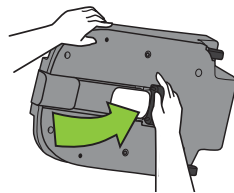

Figure 54
- Turn Base over and rotate Load Leg into Load Leg Storage on bottom of Base. Press down on Load Leg to lock in place as shown in **Figure 54**.